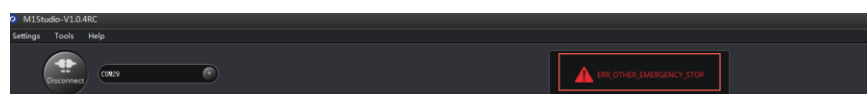

Figure 5.21 Alarm tip
- Step 4** Double-click the alarm tip generated on the M1Studio page, as shown in Figure 5.21. The **Alarm and Log** page is displayed.